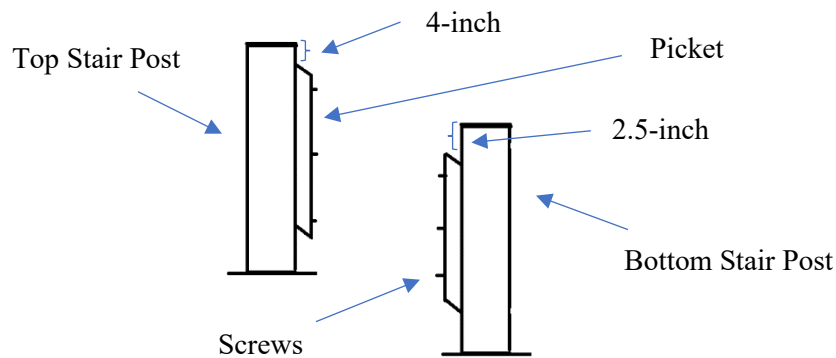

Figure 9 Orientation of pickets fastened to the stair posts (Side view)
4. Clamp the picket to the side of the stair post and fasten it with 3 fasteners. Their orientation is shown in a side view image in Figure 9